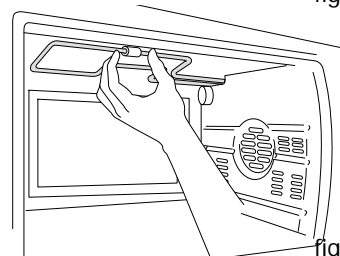

fig. 14
**IMPORTANT:** after cleaning, fasten the heating element back in place (Fig. 14). **The oven must not be used when the heating element is in the lowered position.**